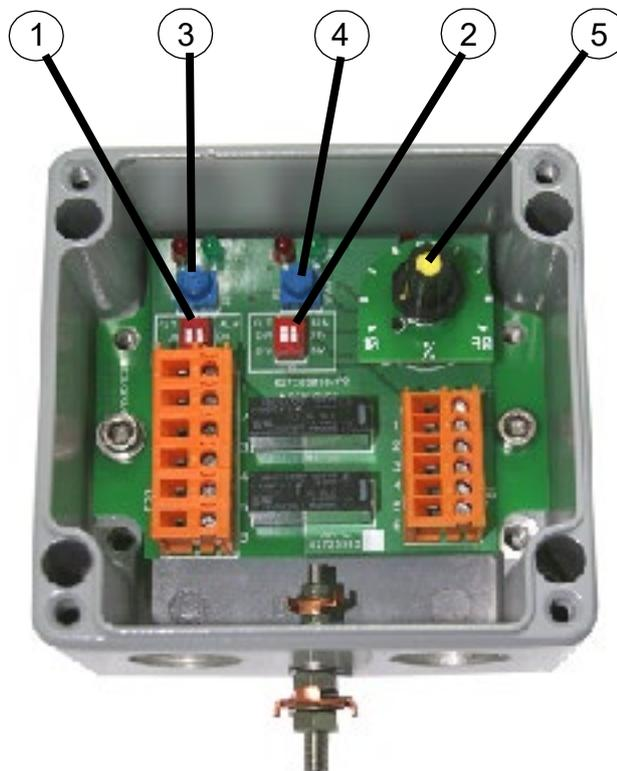

Figure 20. Flow alarm relay box components
During the calibration procedure it is possible to disable the operation of the "low flow" alarm and "flow fault" relays to avoid false alarms within the customers' control system. The Fault/Alarm relay enable/disable switch (Figure 20, item 1) is located in the Flow Alarm Relay Box. Set BOTH switches to the OFF position to avoid false alarms during this setup procedure. Once the calibration or testing is complete both switches should be set back to the ON position.
6. Locate the ZERO flow potentiometer (Figure 20, item 3) and, using a suitable tool, slowly turn until the RED LED comes ON. Then turn in the opposite direction until the GREEN LED just comes on.
3. Locate the SPAN/NORMAL flow potentiometer (Figure 20, item 4) and, using a suitable tool, slowly turn until the RED LED comes ON. Then turn in the opposite direction until the GREEN LED just comes on.
Set the Rotary Switch (Figure 20, item 5) to the value at which the Flow Alarm is to indicate low flow. e.g. 50% is at the 12 o'clock position.
Set both Fault/Alarm relay Enable/Disable switch (Figure 20, item 1) to the ON position. The Flow Alarm is now operational.
2. Locate the Fault/Alarm relay Enable/Disable switch (Figure 20, item 1) and set BOTH switches to the OFF position to avoid false alarms during this test procedure.
3. Slowly close the aspirator isolation valve. The Flow Alarm LED, (above Figure 20 Item 5) will show RED when the flow falls below the threshold value set by the Rotary Switch.